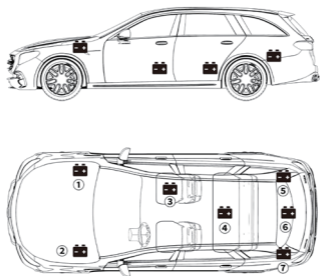

Figure 4.1.1
1. Most models hold the battery in the engine bay, under the hood, in one of the front corners. See battery location ① and ② in Figure 4.1.1.
2. To balance uneven weight distribution, some manufacturers hold the engine in the trunk. See battery location ⑤, ⑥, and ⑦ in Figure 4.1.1. In this case, the battery may have a plastic cover that should be removed prior to any testing.
3. For other models, the battery might be stored underneath the rear seat. See battery location ④ in Figure 4.1.1.
4. For some vehicles, the battery can be located underneath the passenger seat. See battery location ③ in Figure 4.1.1.